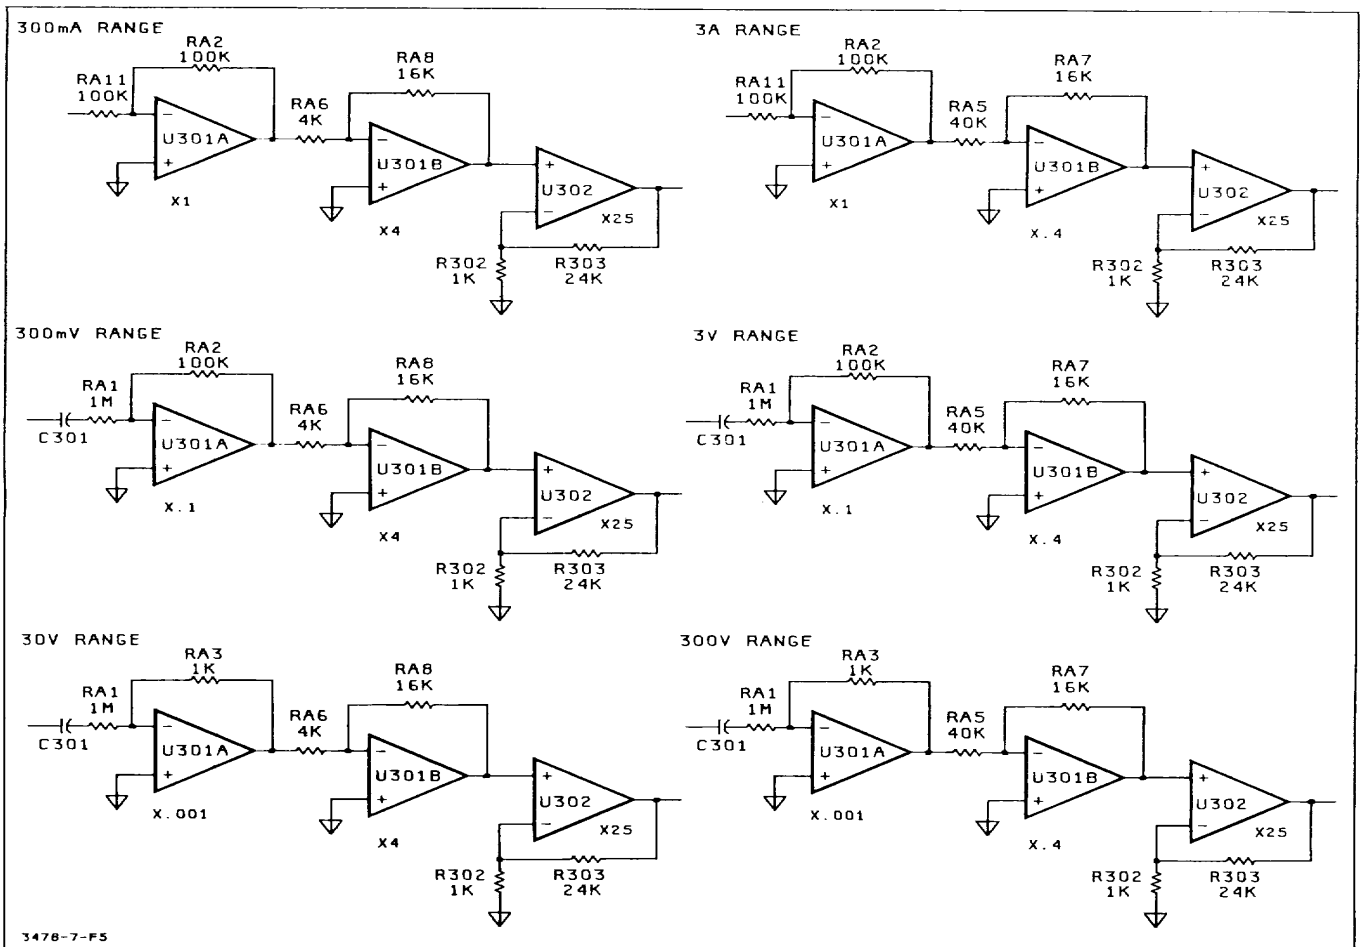

Figure 7-F-5. AC Gain Configurations
7-F-28. Amplifier Stages. Refer to Figure 7-F-5 and Schematic 2 for the following explanation.
a. The first amplifier stage (U301A) is an inverting amplifier with gains of X.00, X. 1, or X1 (dependent on the ac range and function selected). The gains are determined by resistors RA1, RA2, RA3, and RA11 (all in U102), as shown in Figure 7-F-5. Capacitor C302 and resistor R305 are used for high frequency compensation (for flat gains at high frequency). The gain determining resistors are selected by MOSFETS SIAC through S6AC, and SI1AC (all in U102) which operate as switches. The gains of the amplifier and FETs selected for the ac functions are listed in Table 7-F-2.